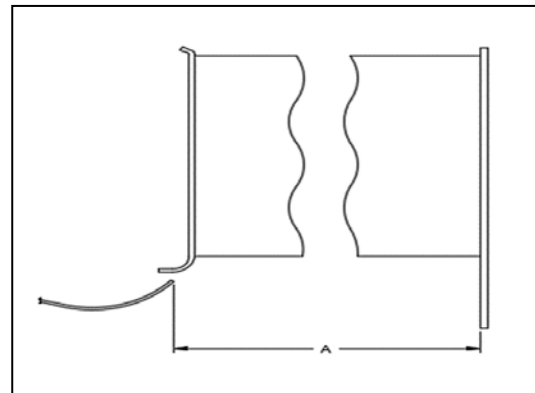

Figure 3
4. When installing a new wheel or cone, the proper wheel-to-inlet cone clearance must be maintained (see Figure 3).